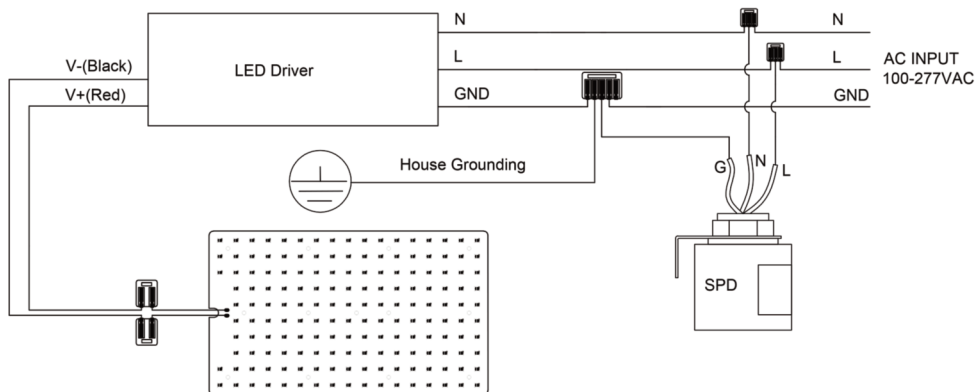
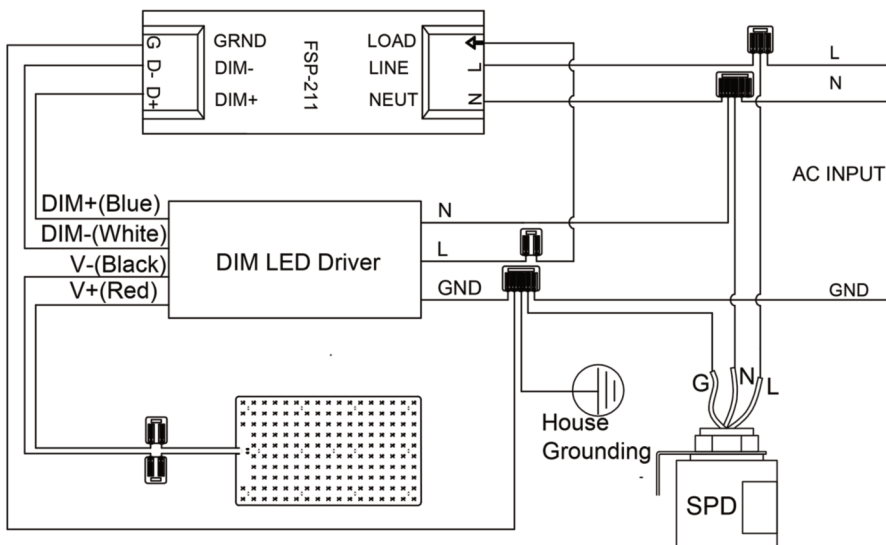

FIG.14
FIG.16
3. The **FIG. 14** to **FIG.16** demonstrates the interior wiring of three different configurations in the driver compartment (When need to remove or replace any component in the driver compartment, please refer to the below wiring **FIG. 14** to **FIG. 17** and base on the actual condition, resume using the fixture by wire connecting).
3. FIG.14 is for standard wiring which includes a 10kV Surge Suppressor.
5. FIG.16 is for wirings when dimmable driver, surge protector, FSP-211 sensor are used.